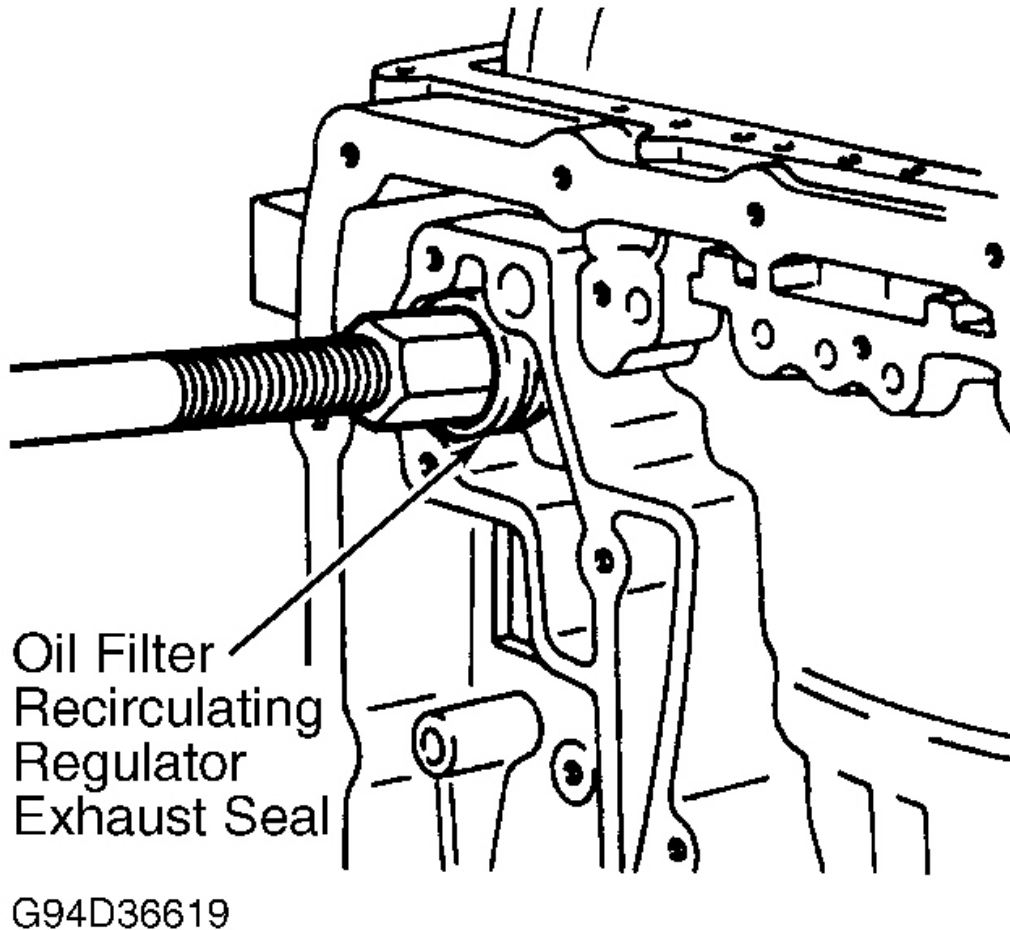

Fig. 11: Removing Oil Filter Seal
7. Remove rear chain cover with magnet attached. Using blind hole puller, remove oil filter recirculating regulator exhaust seal and discard. See **Fig. 11**. Remove and discard oil filter. Remove driven sprocket No. 12 thrust bearing assembly and No. 11 shim.